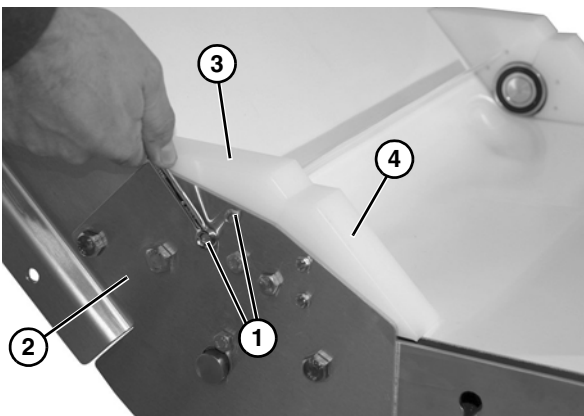

Figure 53
1. Remove two cap screws (Figure 53, item 1) on side of lower knuckle assembly (Figure 53, item 2), and remove hold down guide (Figure 53, item 3). Repeat for second hold down guide (Figure 53, item 4). Repeat on opposite side.